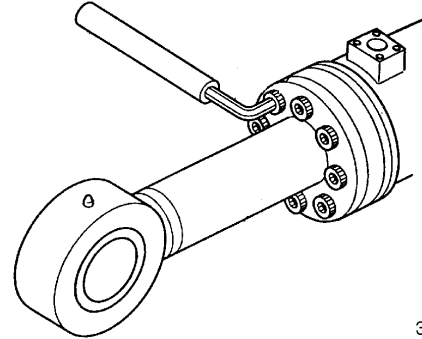

Figure 8
1. Use an allen wrench to remove bolts that hold cylinder head to cylinder tube. See Figure 8.